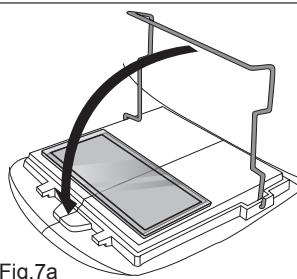

Fig.7a
- ② Flip up the holding spring and put the magnifier lens on the filter with the smooth surface upside (see Fig.7a).